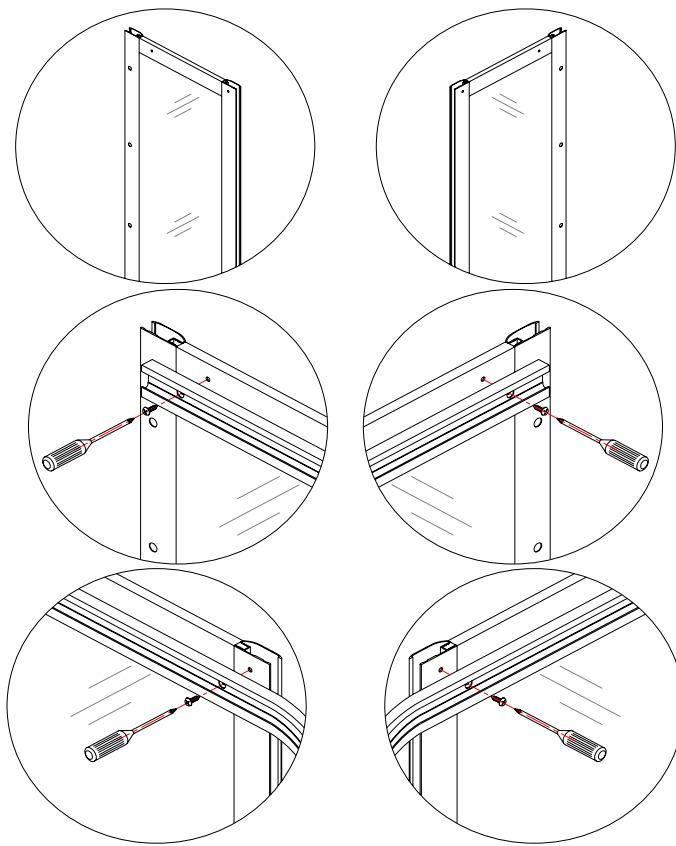

Fig 2
4. Secure the bottom and top guide rails with two stationary glass assemblies using round head self-tapping screw ST4.2×10. Make sure the holes to secure the guide rail and the stationary glass are aligned. Repeat the same steps for the second stationary glass panel (fig 2 & 3)